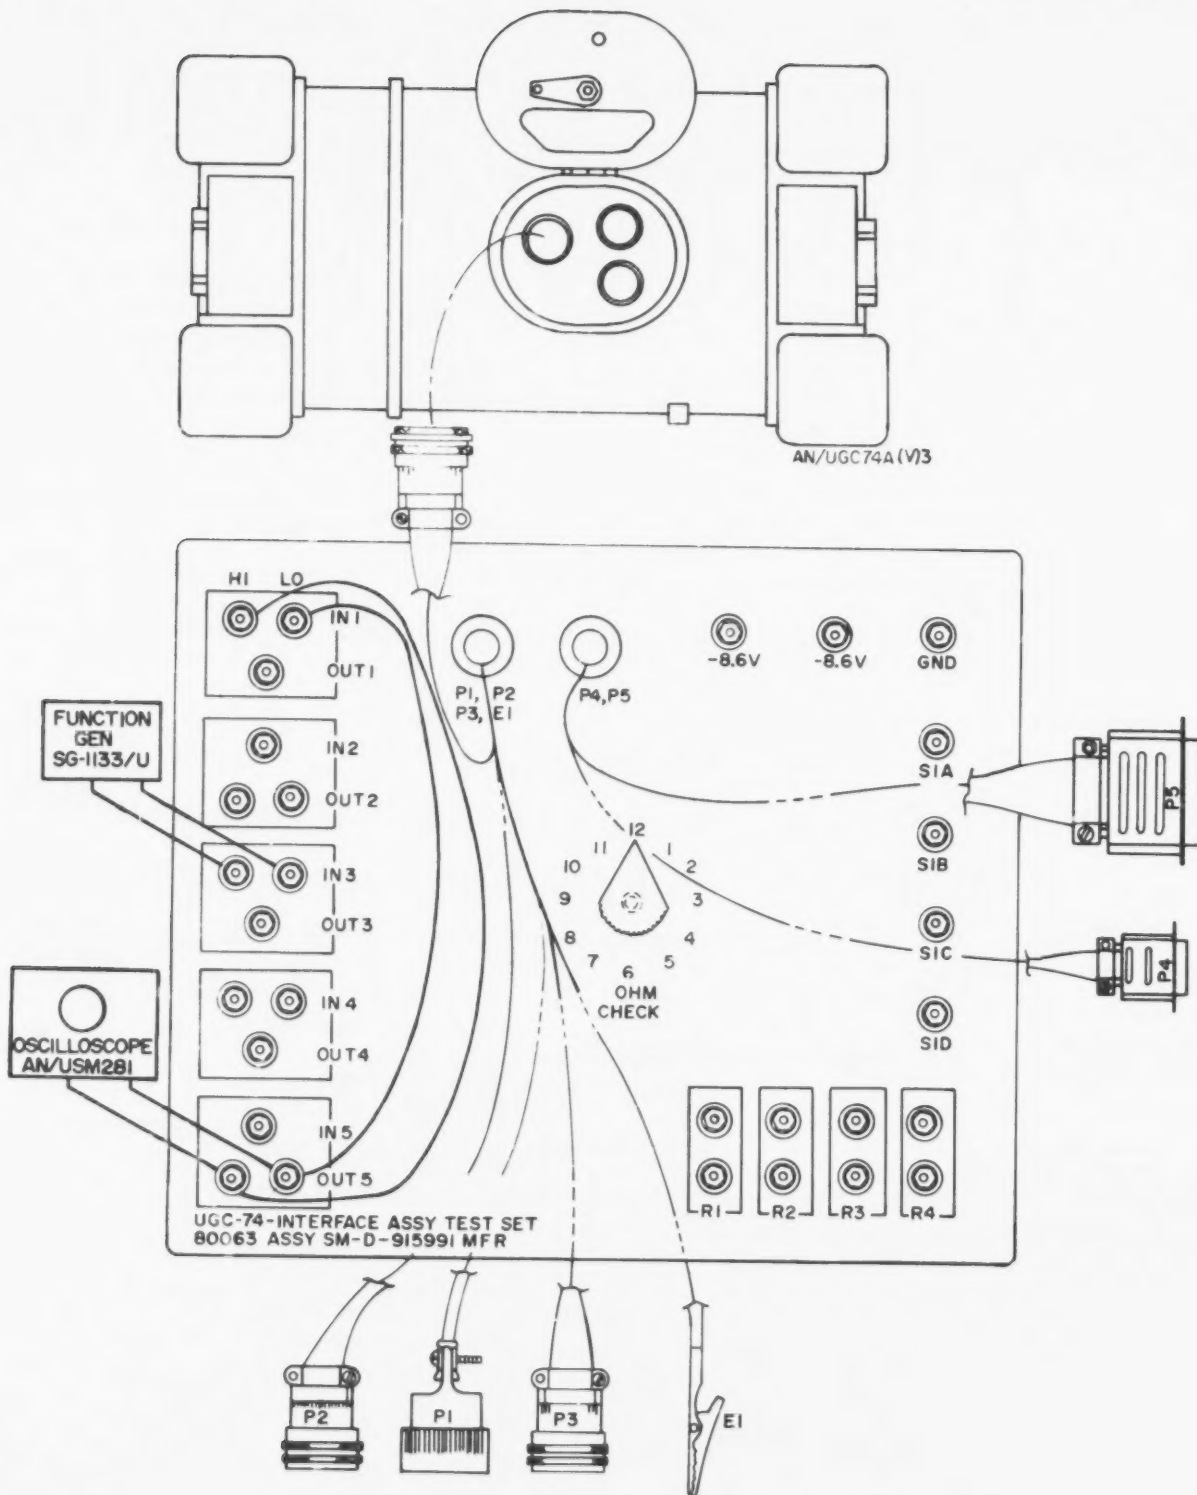
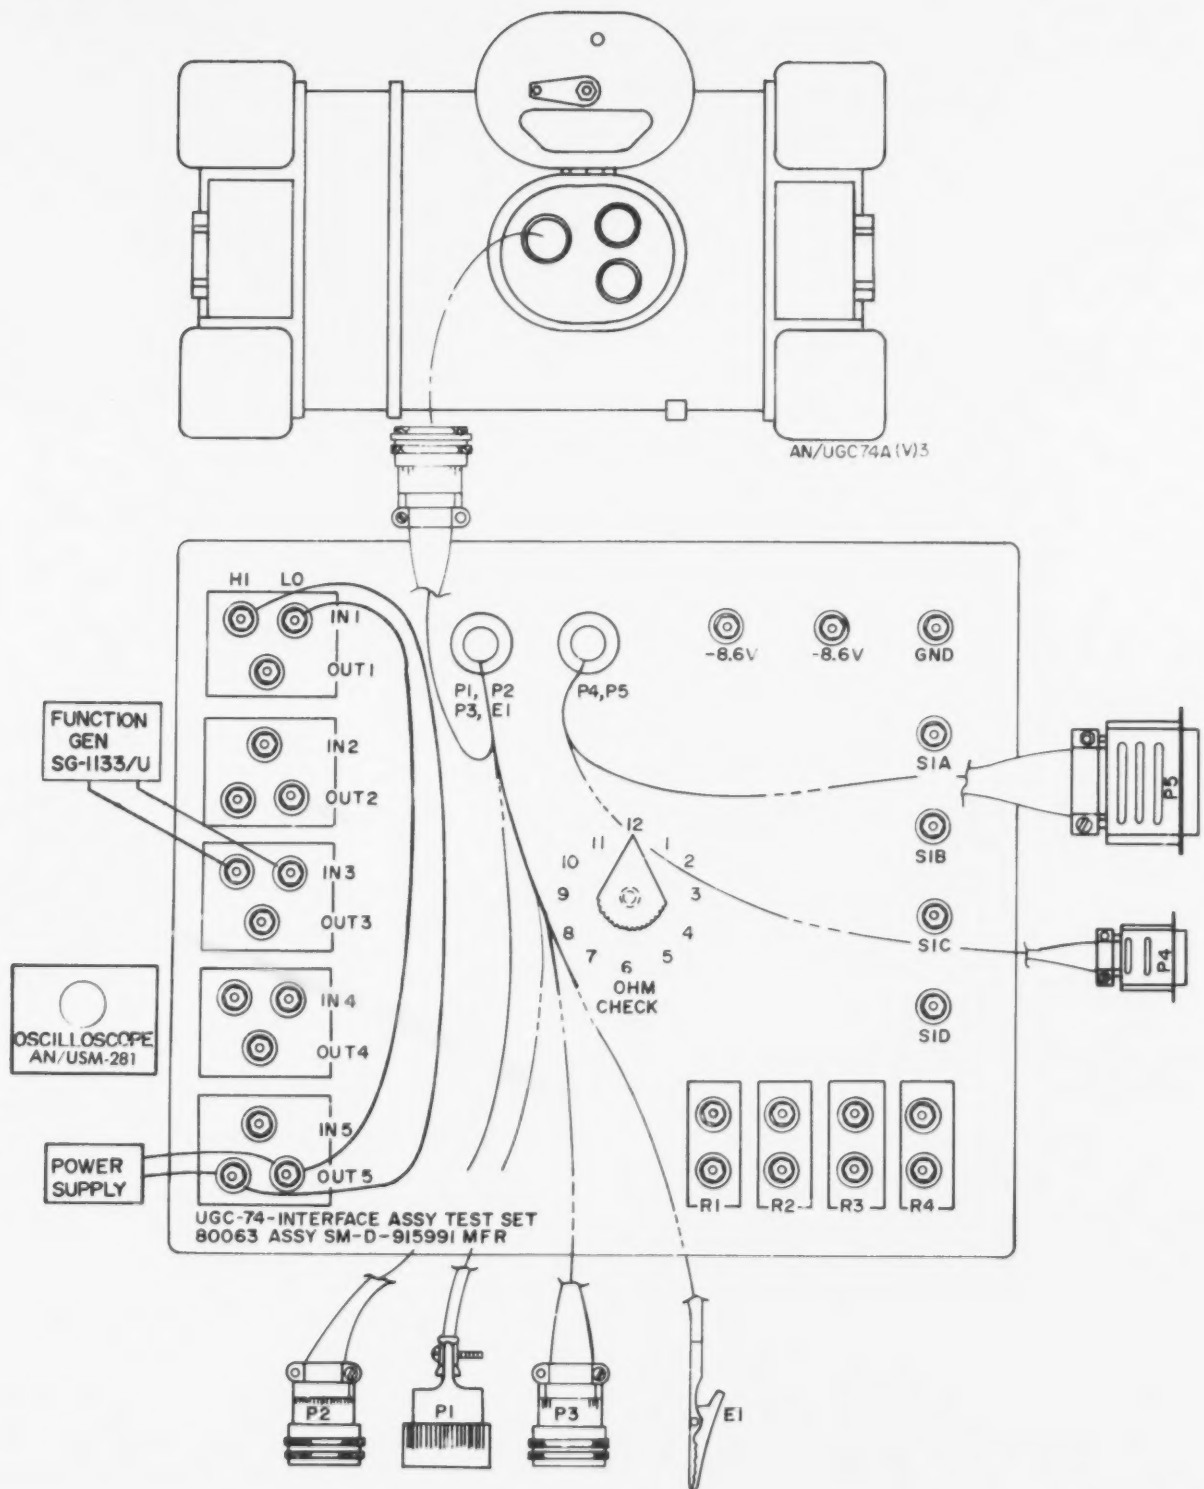

Figure 6-26. EQUIPMENT SETUP FOR DATA CLOCK TEST.
Figure 6-27. EQUIPMENT SETUP FOR 26 VOLT SUPPLY TEST.
- Remove loopback plug and connect interface test fixture to data connector (J1). Connect an oscilloscope to OUT5(HI) and OUT5(LO). Refer to figure 6-26 for test setup.
- Set up function generator for 0 to +6 V square wave at 100 Hz (external/clock) and connect to IN3(HI) and IN3(LO). Connect OUT5 to IN1(HI) and (LO).
- Connect second oscilloscope channel to OUT2(HI) and OUT2(LO). Using the TTY Command, transmit a line of E's observing that data at OUT5 is being clocked on the positive edge of the clock. Synchronize the oscilloscope on DATA.
- Using the interface assembly test fixture, connect a 26V supply through a 470-ohm resistor (R3) to XMIT DATA HI and LO. Connect XMIT DATA OUT5(HI) and OUT5(LO) to REC DATA HI and LO. Refer to figure 6-27 for test setup.